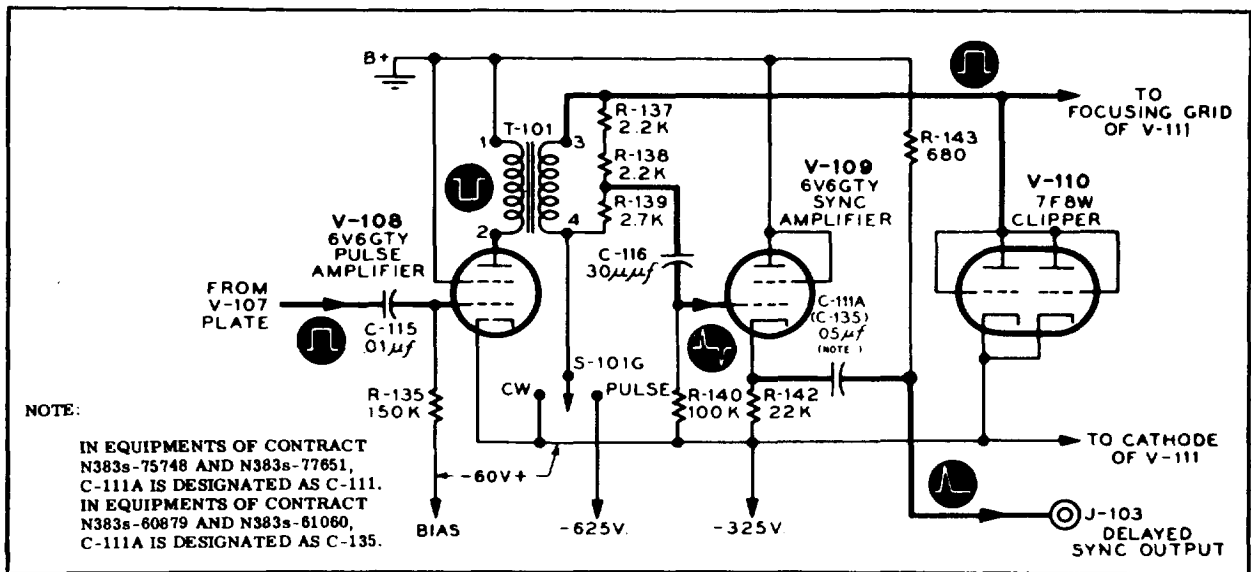

Figure 3-9. Signal Generator TS-419/U, Pulse Amplifier and Delayed Sync Amplifier, Simplified Schematic Diagram
(2) POS MOD OPERATION.—Tubes V-106 and V-107 become a two-stage video amplifier when external positive pulses are used directly to modulate the klystron. By means of S-101F (position B) the grid of V-106 is disconnected from feedback capacitor C-126 and tied to the EXT MOD connector J-104 through C-128. The grid of V-107 is fed from the plate of V-106 by C-114 through S-101E (position B) and R-130 is shorted out by S-101D (position B). These changes are required to provide suitable and fixed time constants in the interstate coupling network. The output is taken from the plate of V-107. A positive input pulse overcomes the cut-off bias on V-106, causing plate current flow, and creates a negative pulse at the plate of V-106, thereby cutting off V-107 and causing a positive pulse to appear in the plate circuit of V-107. This pulse is used to drive the pulse amplifier V-108.
(3) NEG MOD OPERATION.—When external negative pulses are to be used directly to modulate the klystron, only V-107 is used. By means of S-101E (position A) the grid of V-107 is connected to the voltage divider consisting of R-195 and R-129. R-130 is shorted out by S-101D. This voltage divider is fed from the EXT MOD connector J-104 through C-128. Attenuation of the negative pulses by the voltage divider is necessary to prevent widening of high-amplitude negative pulses. An incoming negative pulse cuts off V-107, causing a positive pulse to appear in its plate circuit. This pulse is used to drive pulse amplifier V-108.
f. PULSE AMPLIFIER ANT) DELAYED SYNC OUTPUT. (See figure 3-9.)
(1) PULSE AMPLIFIER.—In all cases described previously, a positive-going pulse was supplied by V-107 to the grid of V-108, which is normally biased beyond cut-off. The positive potential thus impressed on the grid of V-108 causes the tube to draw heavy plate current through the primary of pulse transformer T-101. The resulting negative pulse across the primary of T-101 is stepped up in voltage and inverted in polarity in the secondary. The resulting positive-going output pulse is clipped by the action of V-110, and is applied to the focusing grid of the reflex klystron V-111, causing V-111 to oscillate for the duration of the pulse.
(2) DELAYED SYNC OUTPUT.—A pulse voltage is picked off the network R-137, R-138, and R-139 connected across the output of T-101. This pulse is differentiated by C-116 and R-140. The positive pip occurring at the leading edge of the pulse overcomes the large bias on V-109 created by cathode resistor R-142, and V-109 conducts with a heavy cathode current. The negative pip occurring at the trailing edge of the output pulse has no effect on V-109. It should be noted that the positive pip impressed on the grid corresponds with the trailing edge of the output from the delay multivibrator V-104. Furthermore, it occurs at substantially the same time as the beginning of the r-f pulse. Thus, V-109 acts to provide a low-impedance output source for a positive video pulse at the DELAYED SYNC OUTPUT connector J-103 and also clips any negative portion of the pulse. For output pulse characteristics refer to paragraph 2a.(10) of Section V.